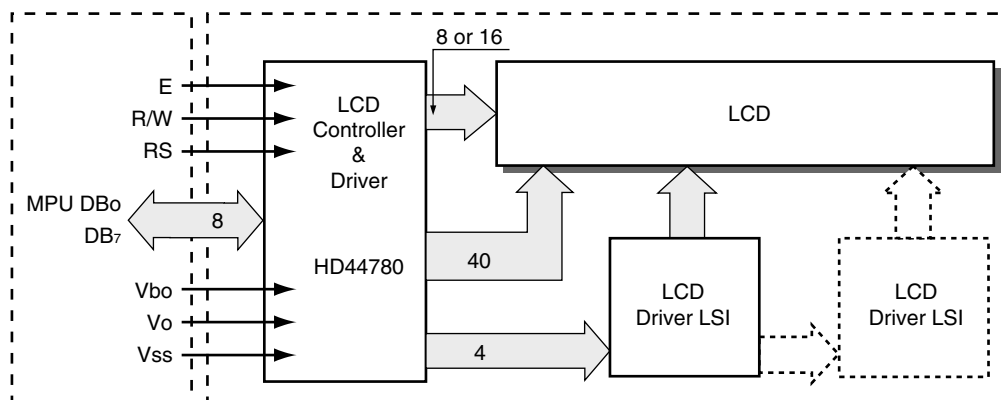

FIGURE 7
To display data on the module, data is sent through the data bus from the microprocessor to the LCD controller (see Fig. 7). The controller contains two 8-bit registers, one for instructions and one for data. They are selected by the register select (RS) signal. First, positioning data is sent to the LCD and written into the instruction register. This is followed by a character code that is written into the data register. The LCD module will then display the specified character in the correct position.